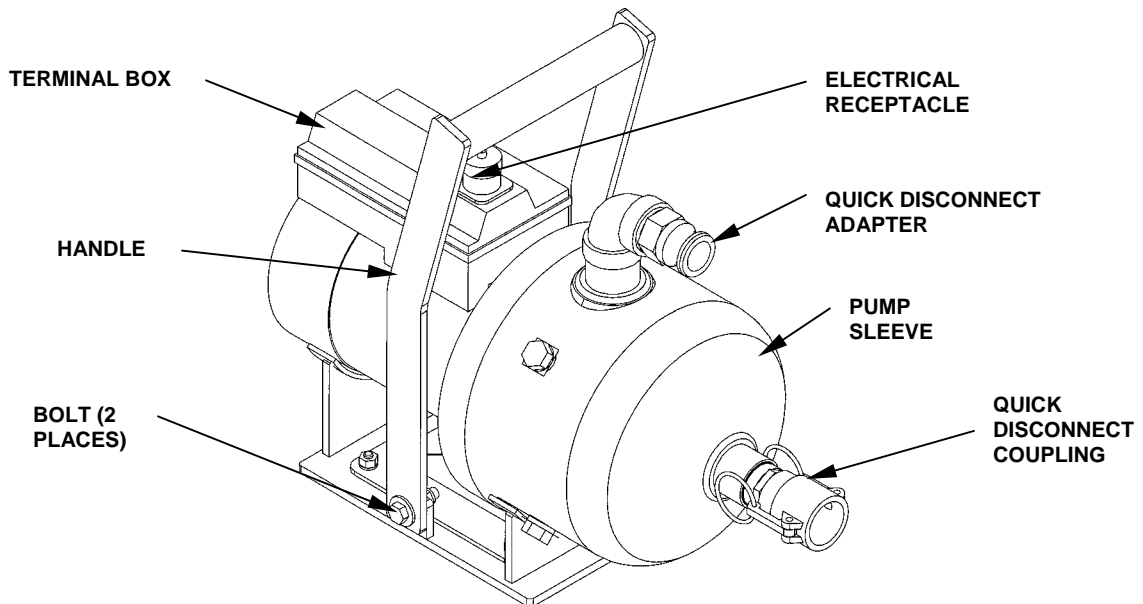

Figure 1. Service Pump.
3. Push handle forward to clear receptacle. See Figure 1.